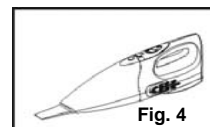
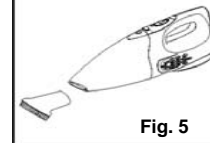

Fig. 4
Fig. 5
3. To attach the crevice tool or the dusting brush to the hand vacuum, push the attachment into the suction hole in the front of the dust container. (Fig. 4 & Fig. 5)